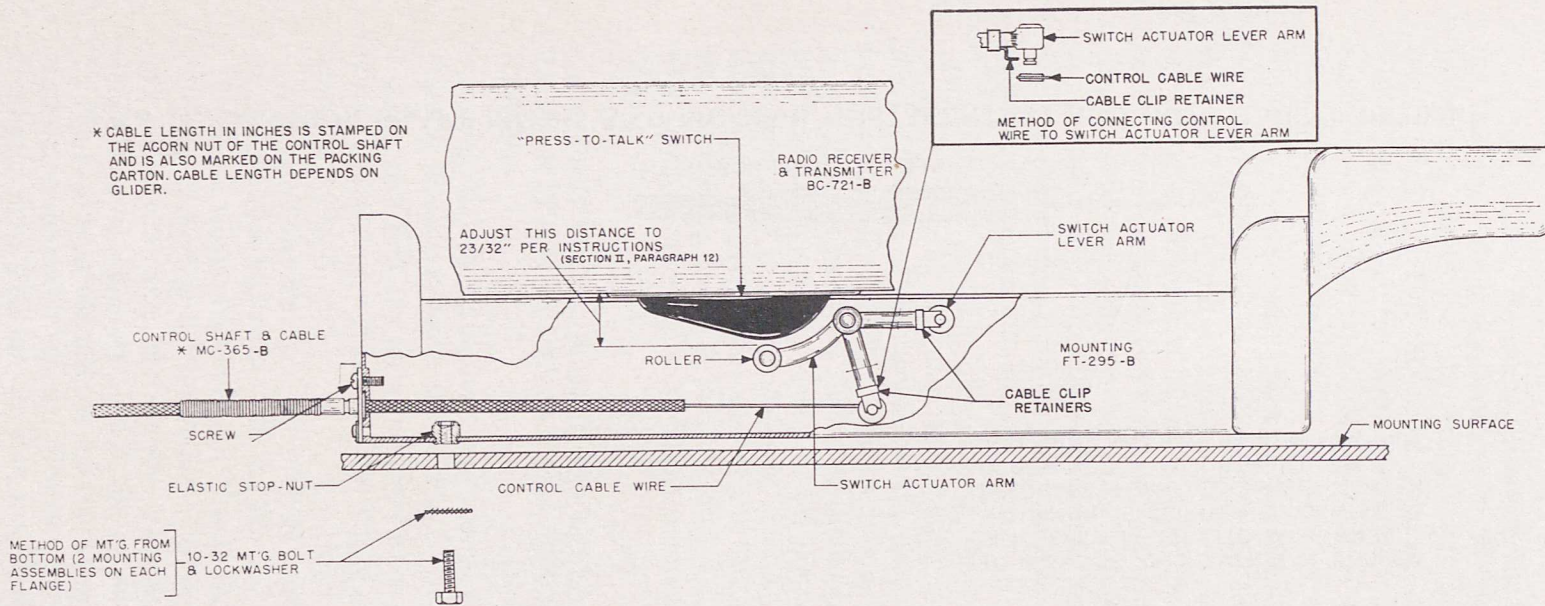
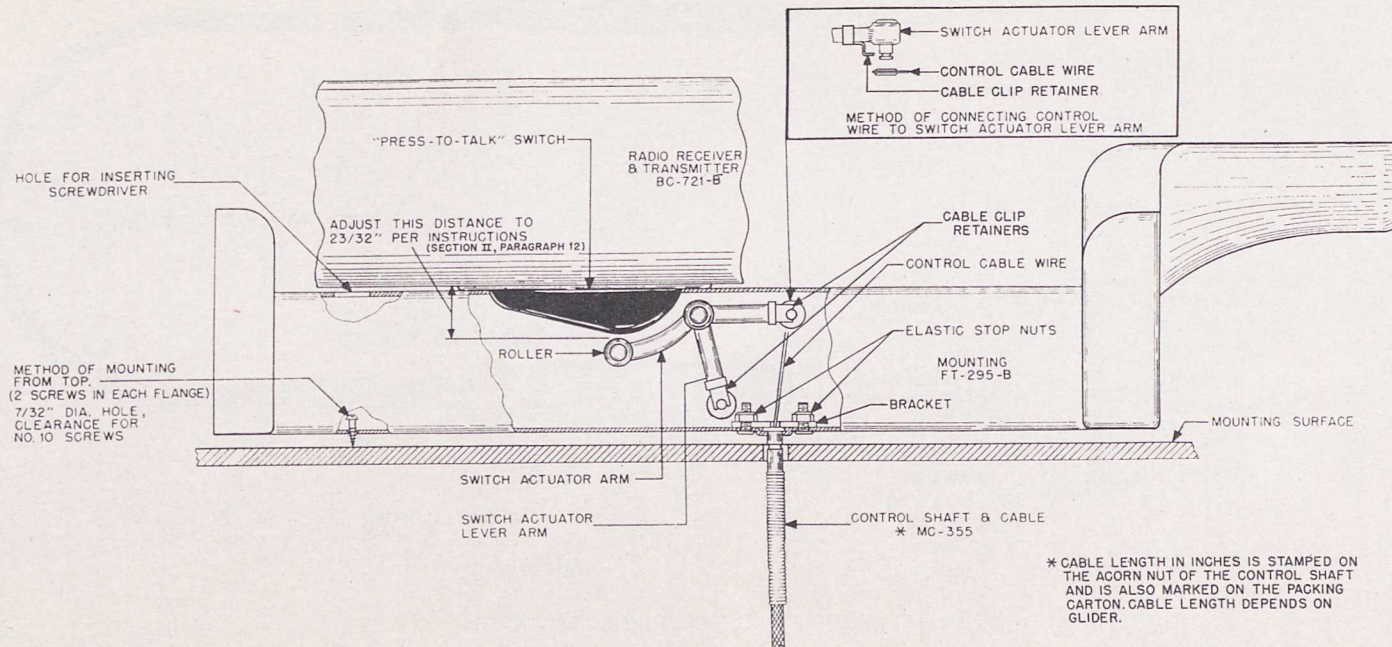

FIG. 9. CONTROL SHAFT MC-365-B, INSTALLATION, SHOWN IN END FASTENED POSITION
FIG. 10. CONTROL SHAFT MC-355, INSTALLATION, SHOWN IN BOTTOM FASTENED POSITION
7. MOUNTING FT-295-B.—Mounting FT-295-B should normally be located in a position in the glider so that it is accessible for quick removal of Radio Receiver and Transmitter BC-721-B. This condition does not apply to small two place training gliders. There are several locations where the mounting may be placed, and there are two methods of installing Mounting FT-295-B as shown in Figs. 9 and 10. The antenna lead-in should be *kept away* from all cables, the metal portion of the fuselage, and the personnel.
a. The first method, shown in Fig. 9, is used when it is possible to get underneath the structure supporting the mounting to insert the fastening screws. Elastic stop nuts are riveted to the fastening flange on Mounting FT-295-B and prevent loosening of the screws due to vibration.
b. When it is necessary to install Mounting FT-295-B against a solid object, or where there is very little space behind the mounting support, the second method, shown in Fig. 10, should be used. There is a large opening directly above the screw holes in the mounting, through which a screw driver may be inserted.
c. Refer to Fig. 9 if the end fastening method is used, or to Fig. 10 if the bottom fastening method is used. Place the eyelet of the Bowdin wire over the stud on the actuating arm of the lever and slide the retaining cable clip in position. See Fig. 8. Crimp this clip over the stud with a pair of pliers.
between the arm and top of Mounting FT-295-B. The distance should be $\frac{23}{32}$ inches from the top. To increase the distance, turn counterclockwise. See Figs. 9, 10 and 11.